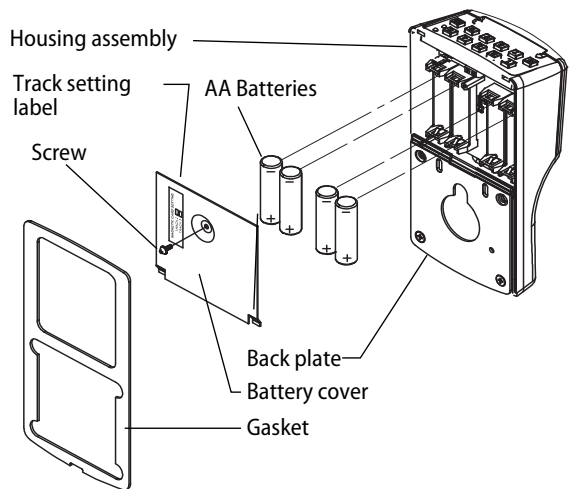

Figure 4 Installing batteries
- 1 Remove the gasket from the rear of the housing assembly as shown in Figure 4.
- 5 Replace the battery cover. See Figure 4. Make sure that the tabs on the lower edge of the battery cover are hooked over the edge of the back plate and secure the cover with the screw.
- 6 Replace the gasket. See Figure 4. Make sure that it is inside the edge of the housing.